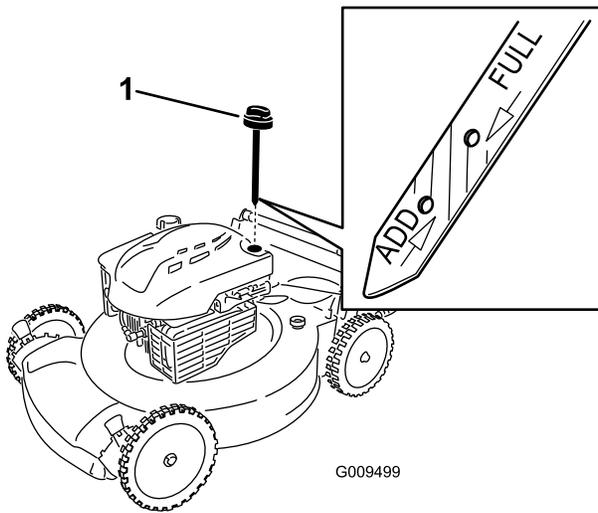

Figure 24
2. Remove the dipstick (Figure 24).
4. **Slowly** pour oil into the oil-fill tube until the oil level reaches the **Full** line on the dipstick (Figure 24). **Do not overfill.**